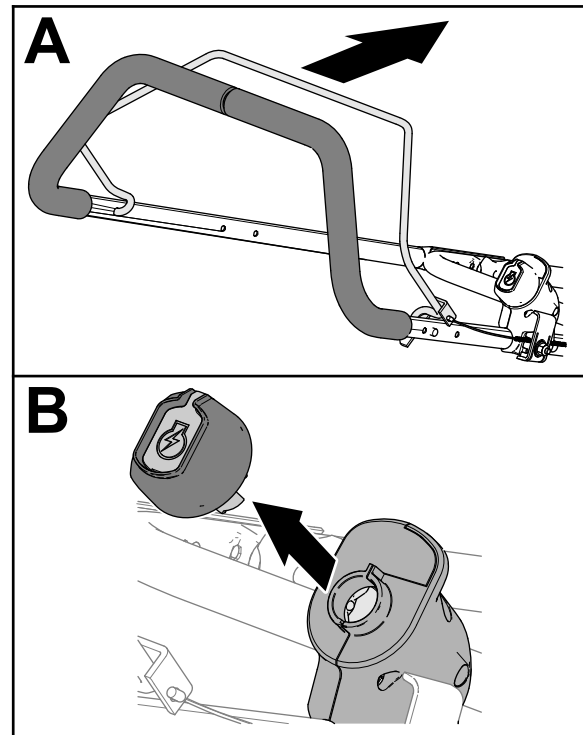

Figure 17
1. Release the operator presence bail (Figure 17).